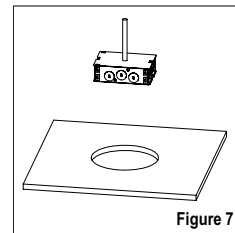

Figure 7
2. If a new hole is needed, cut the hole according to the downlight cut-out dimension for your model type in the Installation Manual's Dimension chart. (See Fig. 7) (See pg. 2 of manual for cut-out dimensions chart)